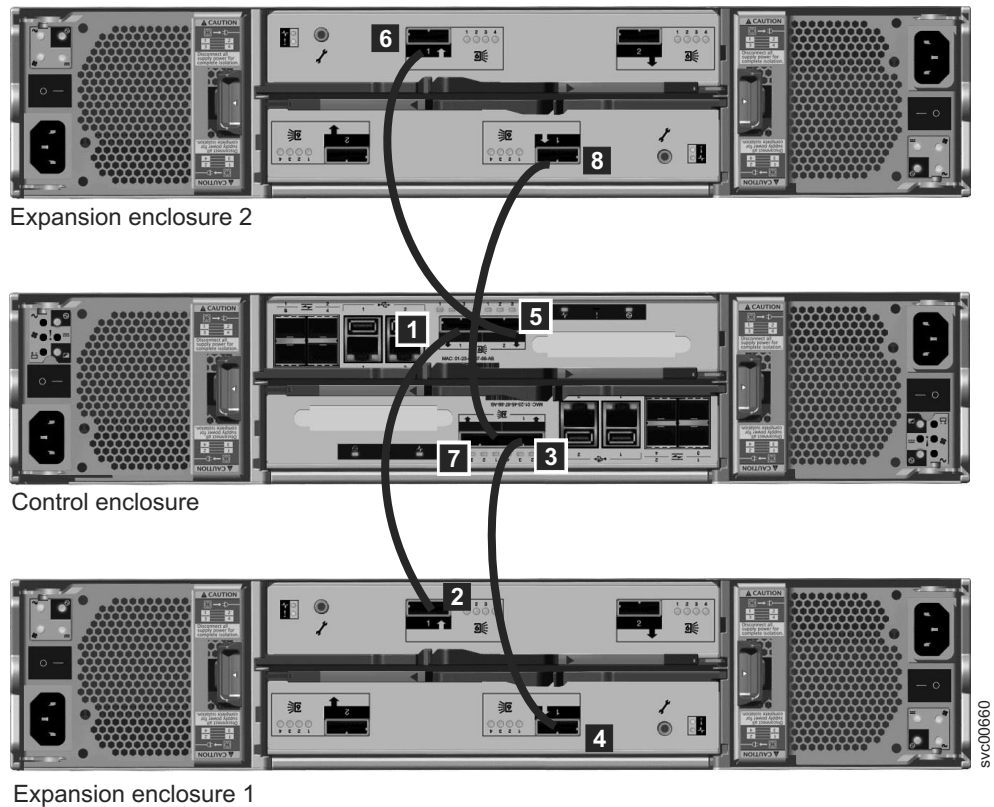

Figure 33. Adding a second expansion enclosure
3. Attach the SAS cables from the control enclosure to the second expansion enclosure as shown in Figure 33 on page 32. The second expansion enclosure is above the control enclosure.